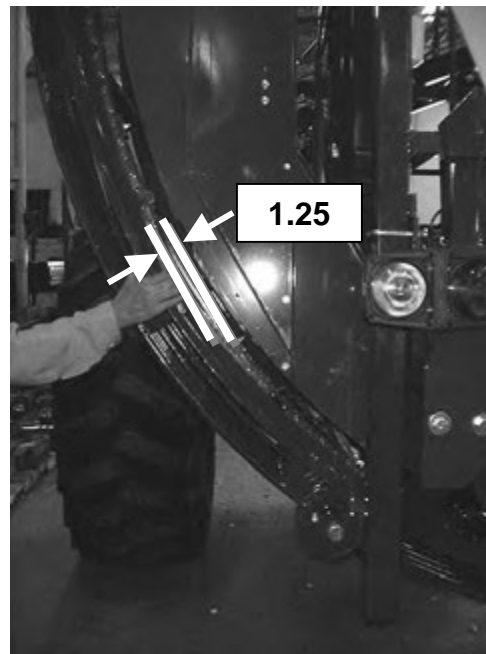
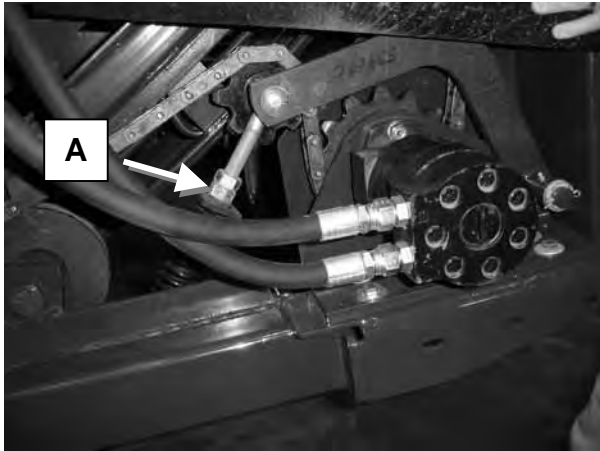

Figure 69 – Tension of Wheel Drive Chain
Figure 71 - Wheel Elevator Sprocket, Chain Drive, and Roller
To tighten the wheel elevator drive chain, see Figure 71. Loosen nuts (A) directly below the idler. Reposition until the chain can be pulled 1.25 inch away from the wheel (as shown in Figure 69). The spring length directly below these nuts is factory set to 6-3/4 long (nuts below spring). It should not deviate from this.